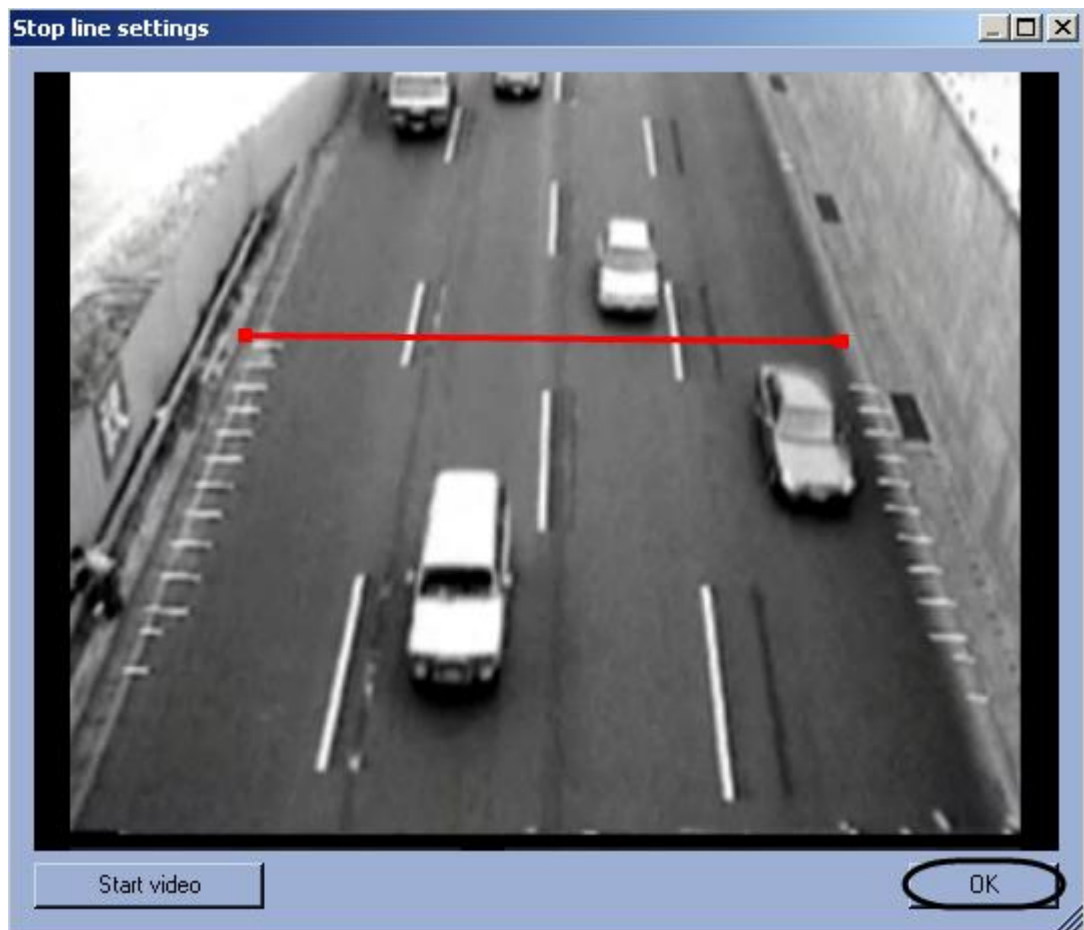

Fig. 7.2-32 Stop line setting
4.2. Click «Stop video» to set the stop line (see Fig. 7.2-31). As the result the frame on which it's necessary to set the stop line, is displayed (see Fig. 7.2-32).
- 4.3. Set the stop line. To set the stop line, click the road edge in the image, press the left mouse button, drag the cursor to another edge of the road in the video frame (see Fig. 7.2-32).
- 4.4. Click OK (see Fig. 7.2-32).